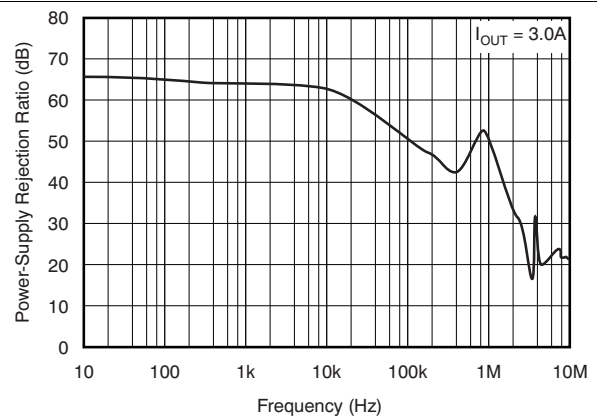
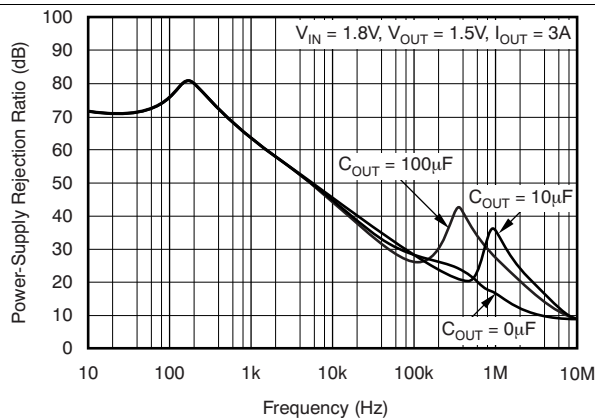

Figure 8.  $V_{BIAS}$  PSRR vs Frequency
Figure 11.  $V_{IN}$  PSRR vs Frequency
(5) See Figure 8 to Figure 11 for PSRR at different conditions.